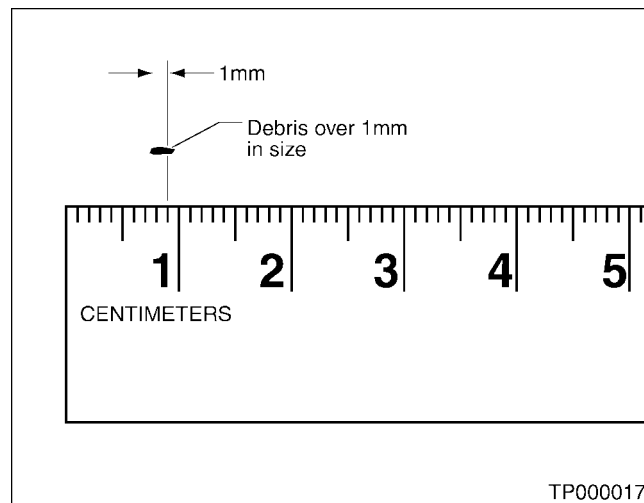

Figure 13
- B. If **one or more pieces** of debris are found that are over 1 mm in size and/or peeled clutch facing material is found in the coffee filter (see Figure 13), the oil-cooler is not serviceable. The radiator/oil cooler must be replaced.